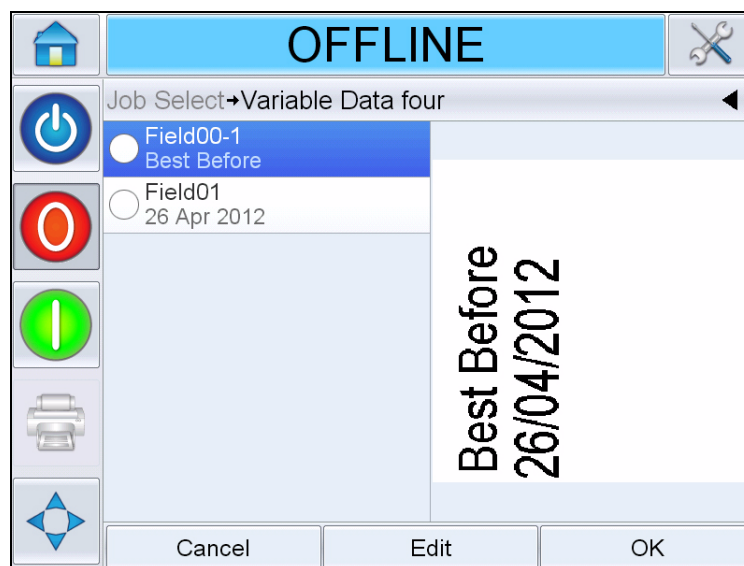

Figure 6-3: Default Data Window
- 2 Touch the required field from the list to select it (the first one in the list is automatically selected). The default data for that field appears in the preview window (Figure 6-3).